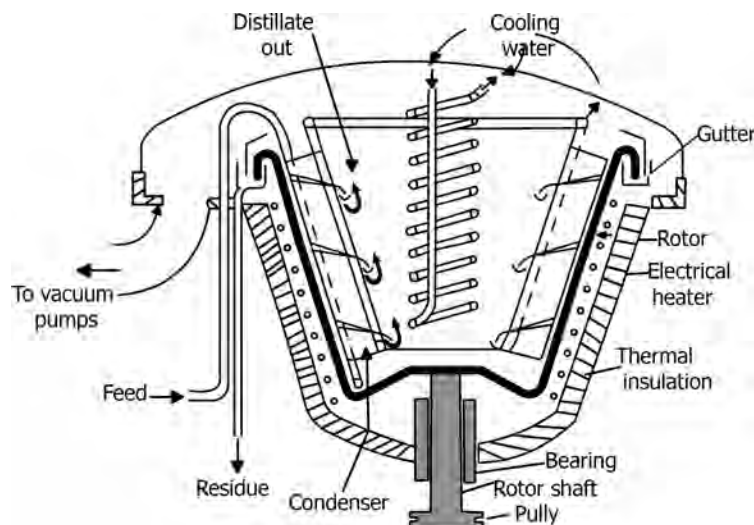

FIGURE 17.35 Centrifugal type molecular distillation still.
- Figure 17.35 illustrates a typical centrifugal molecular still.